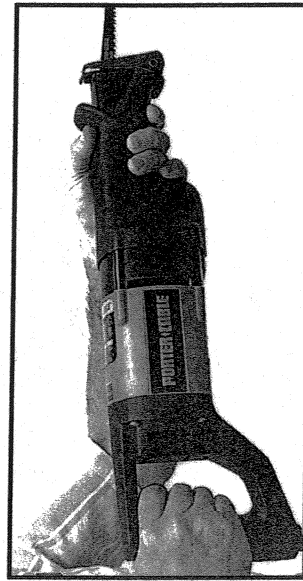

Fig. 6
- 1. ALWAYS** hold saw as shown in Fig. 6 to prevent accidental electrical shock resulting from cutting a live wire when sawing into a wall or other blind area.
WARNING: TO PREVENT ACCIDENTAL ELECTRICAL SHOCK THE SAW MUST BE HELD AS SHOWN IN FIG. 6, AND HAVE THE PLASTIC FRONT HOUSING COVER PROPERLY INSTALLED AND NOT DAMAGED.